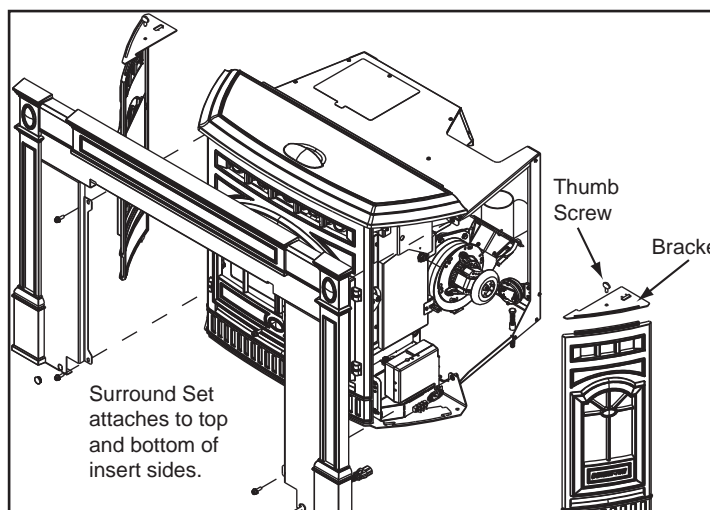

Figure 32.4
- 11 Remove the cast sides before attaching the surround and trim. Lift up the top to expose the thumb screws at the top of cast side. **Figure 32.4.**
- 13 Slide surround and trim over the top of the insert into place. Surround attaches to insert at the top and bottom of insert side. **Figure 32.4.**